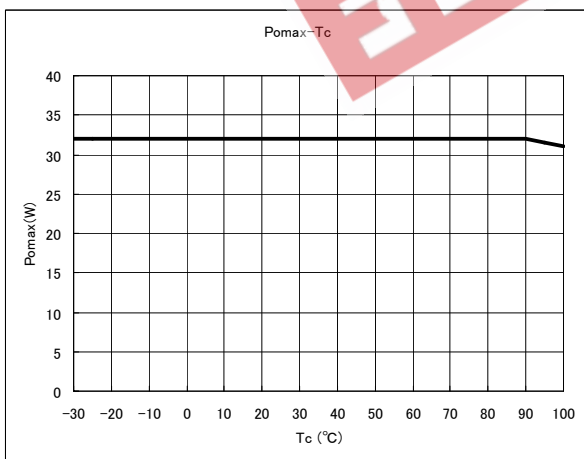
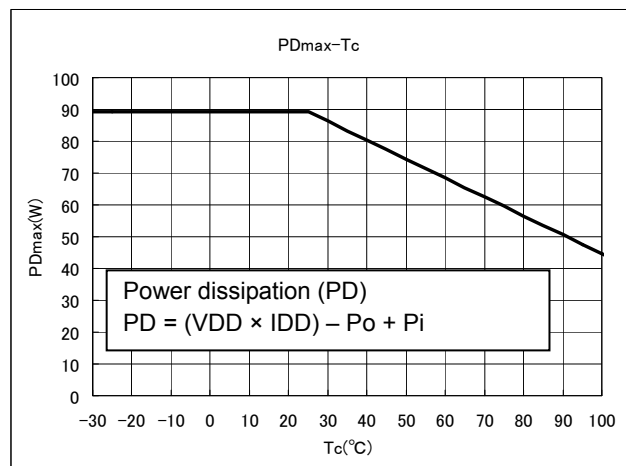

Figure 1 Pomax-Tc
Figure 2 PDmax-Tc
Note 2: The output power rating satisfies the range shown in Figures 1 and 2 according to the operating case temperature. Ensure that the device should be operated within the specified operating range. The figures below indicate the output power obtained 2 seconds after P_o is generated.
*When the device is used at Tc = 100°C, the output power rating is 31 W as shown in Figure 1. When the power dissipation at Tc = 100°C exceeds the rating shown in Figure 2, the output derating is required to limit the dissipation within the specified range.
Note 5: The output power is intended to follow the rating provided in Figure 1 in Note 2.